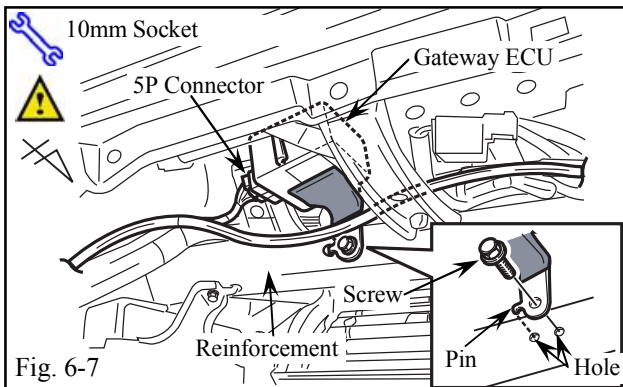

Fig. 6-7
- (j) Using the Screw from the Kit, install the Gateway ECU Bracket. (Fig. 6-7)
- (1) Make sure that the bracket pin seats properly.
- (2) Do not over tighten the Screw.
- (k) Connect the V4 Harness' White 5P Connector to the Gateway ECU. (Fig. 6-7)